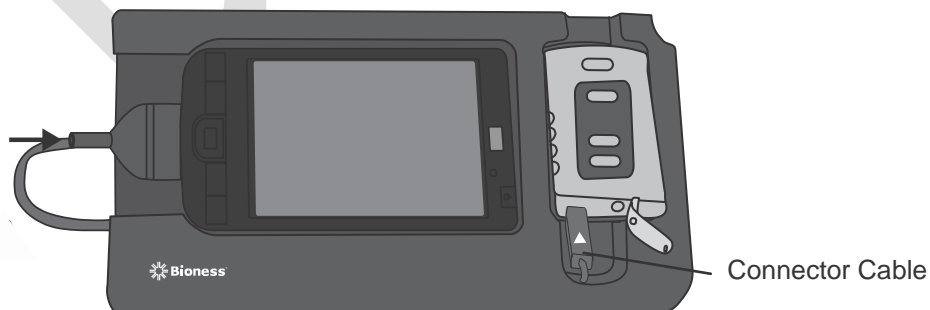

Figure 6-5. Patient programmer connection configuration.
3. Plug the connector cable of the configuration cradle into the connector port of the patient programmer. The white arrow should be facing up. See Figure 6-5.